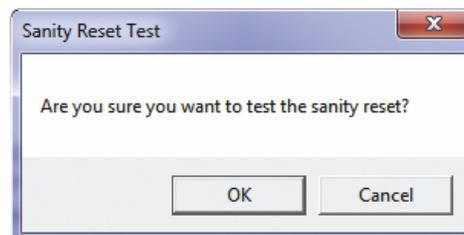

Figure 3-22 Sanity Warning
5. Click **Extract** (Figure 3-22).
Once you click **OK** in the **Sanity Reset Test** dialog box (Figure 3-22), the process cannot be cancelled.